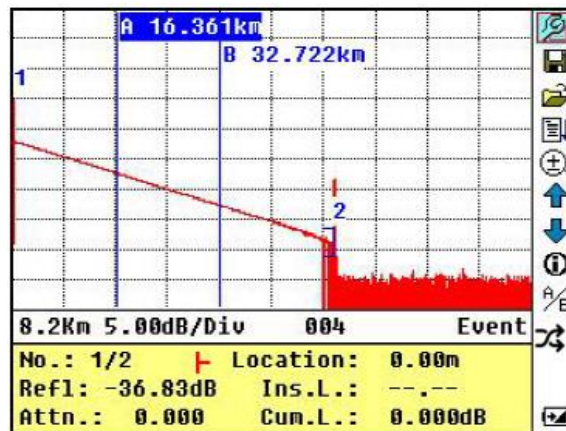
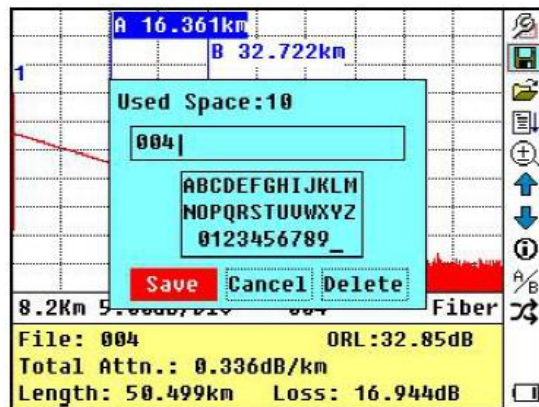
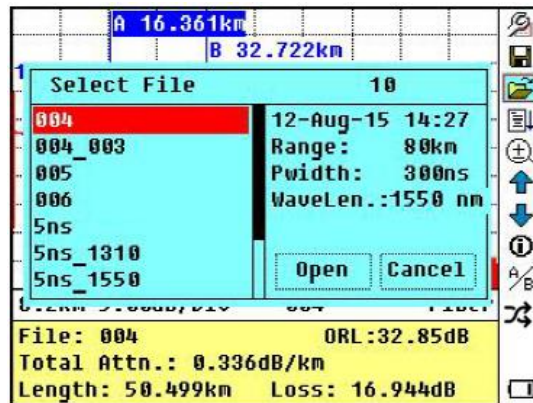

Figure 4-4. Trace Measurement of OTDR
Figure 4-5. Save Trace
Figure 4-6. Browse Saved Traces
After a certain period of time, the trace displays on the GUI. The trace in the Figure below is a trace during measurement, which will be refreshed for every certain period of time to demonstrate the whole process to users in real time. But at the end of measurement, the trace will be final, as shown in Figure 4-4.
Under GUI of Figure 4-4., press [] and the items of information window will display in circulation: measurement parameter→ analysis information→ Event list→ information of marker A/B →fiber →measurement parameter.
Under GUI of Figure 4-4, press [], items in information window will switch to event list information.
Under GUI of Figure 4-4., use [▲] and [▼] to highlight [A/B], and then press [Enter] to switch between marker A/B.
Under GUI of Figure 4-4., press [] switch information window to marker A/B.
- Under GUI of Figure 4-4., press [⊕] and enter the zoom interface; use [] and [] to highlight ↕, ↔, ↕, ↔, then press [Enter] to zoom in/out trace horizontally / vertically; or to zoom in/out trace horizontally / vertically by the combining hot key [Shift/↔]+[▶], [Shift/↔]+[◀],[Shift/↔]+[▲], [Shift/↔]+[▼] in the keyboard
- Under GUI of Figure 4-4., use [▲] and [▼] to highlight , and then press [Enter] to enter, as shown in Figure 4-5.
Under GUI of Figure 4-4, use [▲] and [▼] to highlight , press [Enter] to confirm, as shown in Figure 4-6.